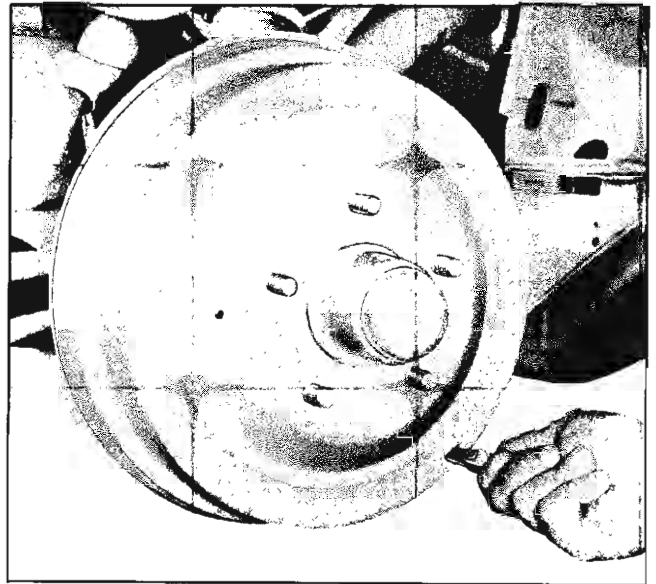

Fig. 5-9 Checking Lining to Drum Clearance
6. Proper lining to drum gap is  $.015'' \pm .005''$  measured between secondary (long) lining and drum while primary (short) lining is against drum. Proper gap is required at both ends of the secondary lining. A five to ten lb. drag on a  $.015''$  feeler during initial withdrawal from full lining width insures holding primary against drum (Fig. 5-9).